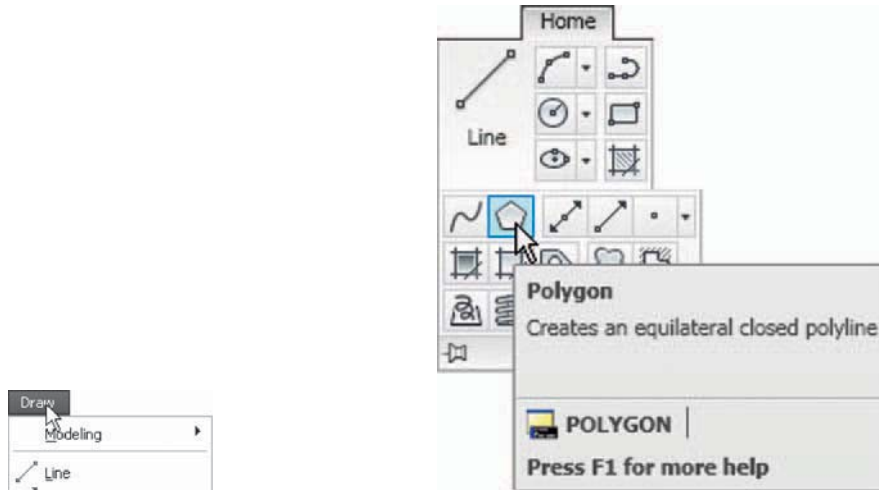

Fig. 3.1 The **Polygon** tool and its tooltip selected from the **Home/Draw** Panel
1. By *clicking* on the tool's icon in the appropriate panel. Fig. 3.1 shows the **Polygon** tool called from the **Home/Draw** panel.